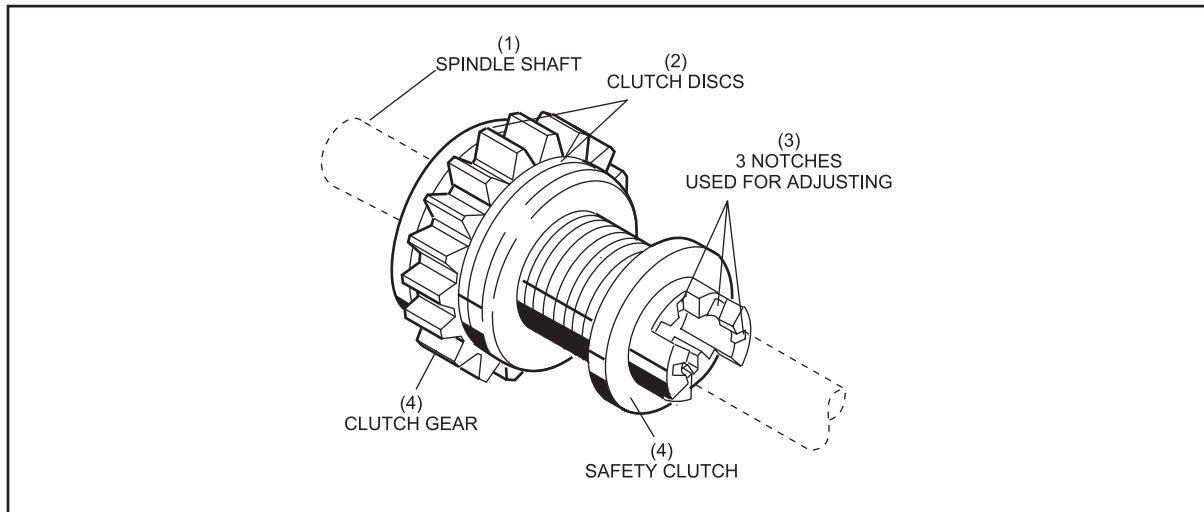

Figure 8-10. Reassembling Clutch.
- (1) CLUTCH SHAFT GEAR (2) TORX SCREWS (3) SWITCH CLUSTER ASSEMBLY
- Clean all the components with a water based cleaner and a dry towel. When reassembling the clutch, position the shiny sides of the two clutch discs to contact the clutch gear. *Figure 8-10.*